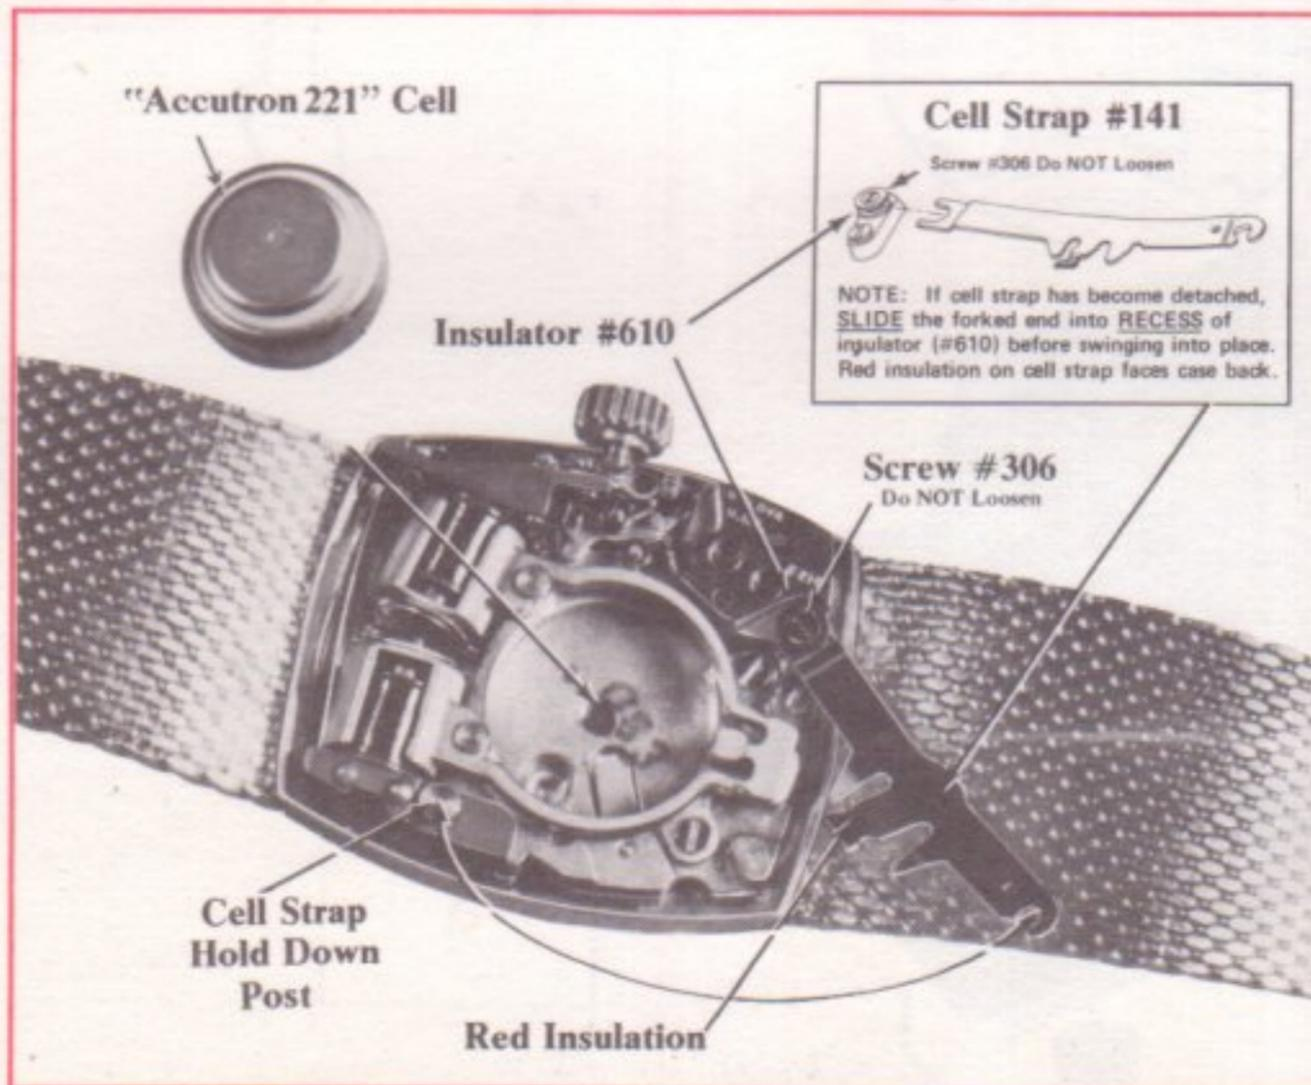

Fig. 7
2. Do **NOT** loosen any screws. Insert a pointed tool in the hole near the end of the cell strap. Applying a light downward pressure, swing cell strap away from hold-down post. (Fig. 7)